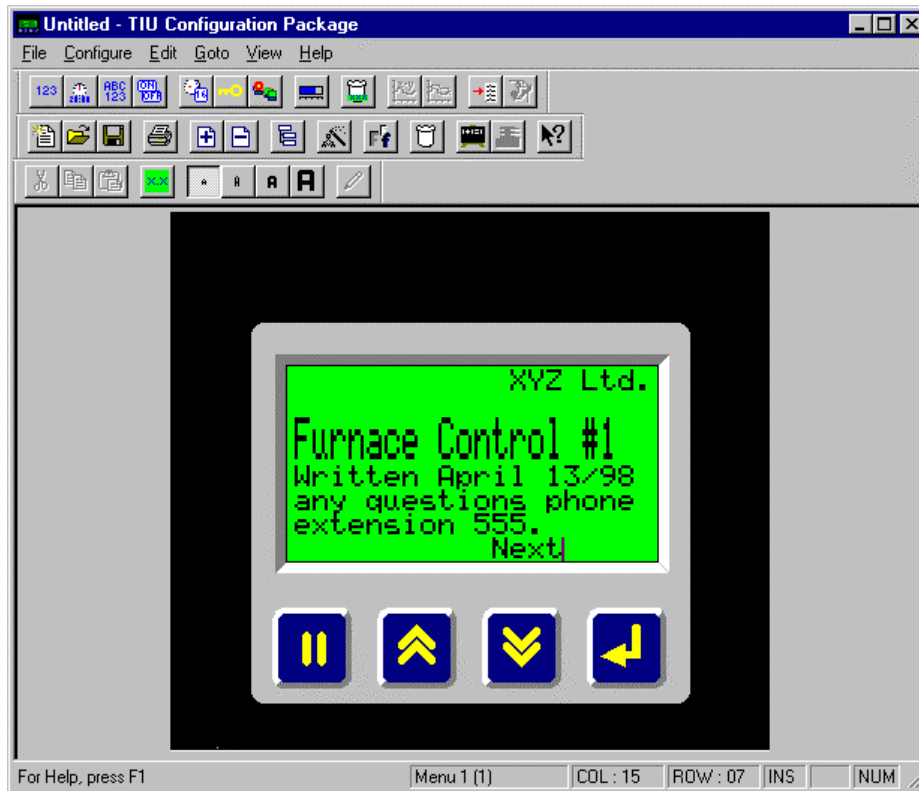

Figure 7.1 – Menu Page 1
2. Menu Page 1 shows some explanatory details about the program and should look like figure 7.1. For "Furnace Control #1" on line 3, click on the font double height icon at the beginning of the line.